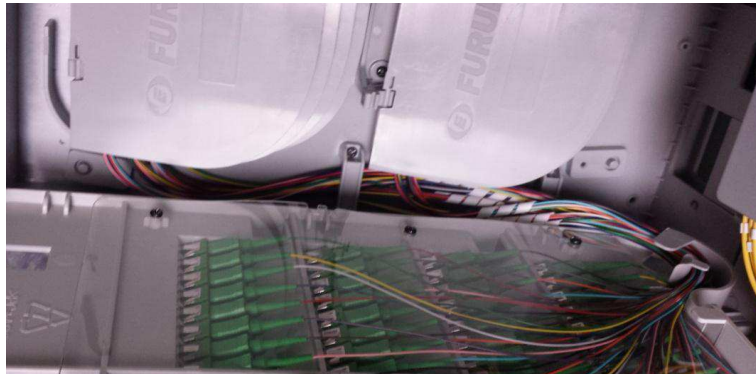

Figure 33
- 1.7.4 Take the fibers to the splice tray by 12 fiber groups and insert the spiral tube in position (Fig.33);